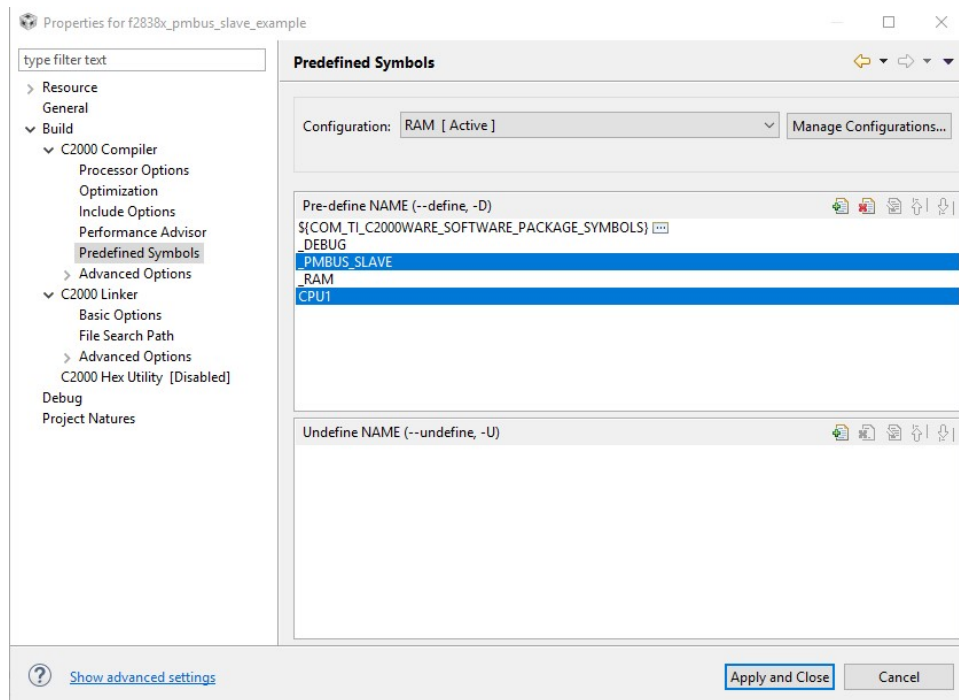

Figure 4.4: Compiler Predefined Symbols
3. For the slave device, define **_PMBUS_SLAVE** in the *Predefined Symbols* option under the C2000 Compiler menu, Fig. 4.4. If using F2838x, **CPU1** must also be defined.